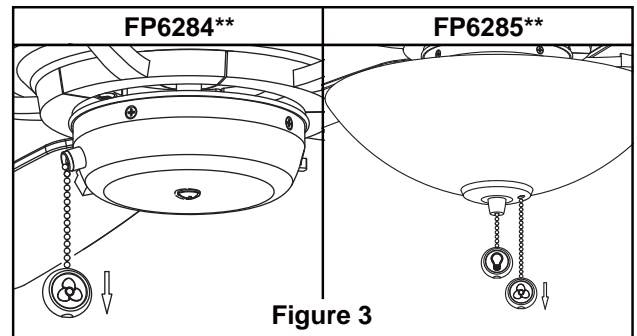

Figure 3
- 3. Check the operation of the fan by gently pulling on the fan pull chain. (Figure 3)